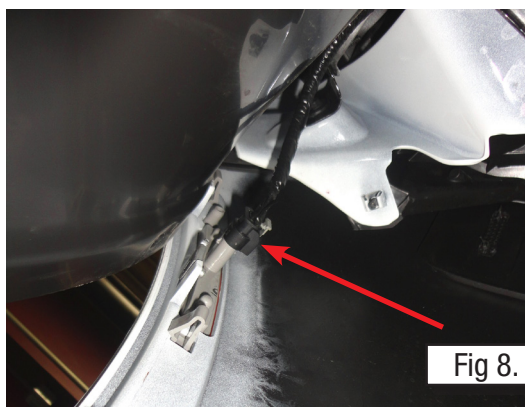

Fig 8.
10. Release the clip on the side marker lights and unplug the wire harness to each light (Fig. 8).